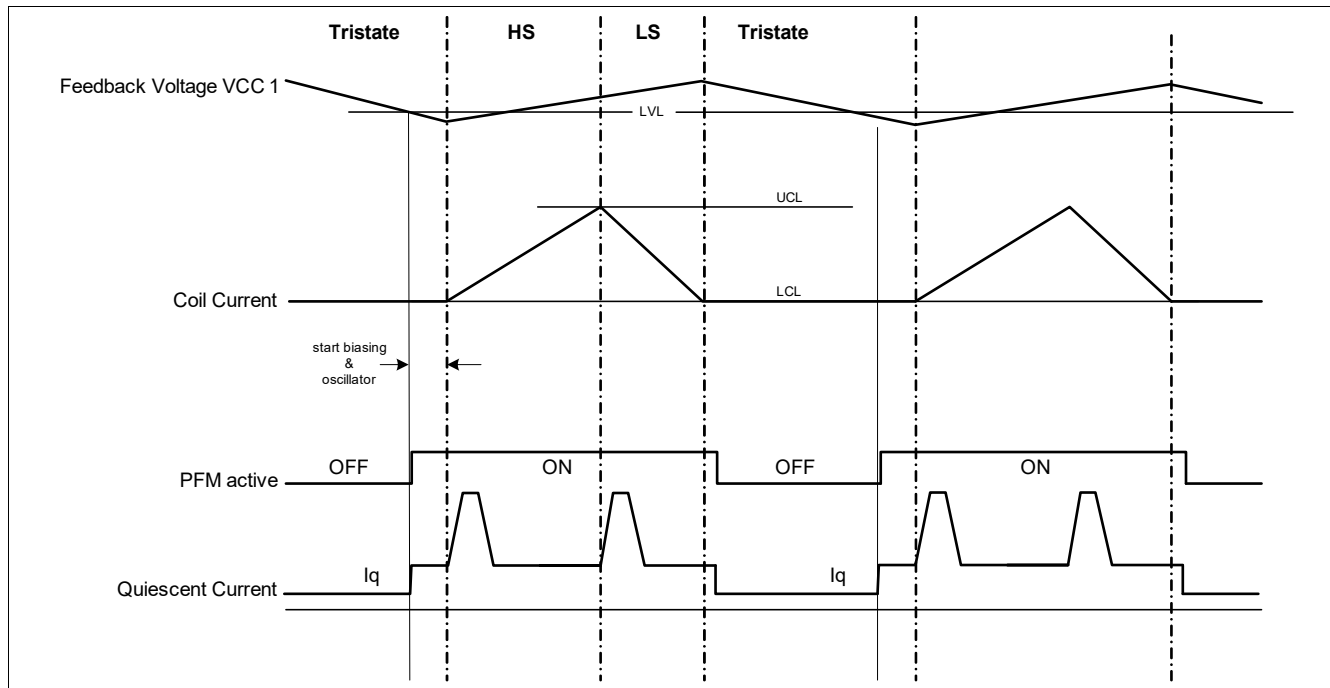

Figure 8 Typical PFM timing diagram
- **PFM Mode (Pulse Frequency Modulation):** This mode is activated automatically when the SBC Stop Mode is entered. The PFM Mode is an asynchronous mode. PFM Mode does not have a controller switching frequency. The switching frequency depends on conditions of the Buck regulator such as the following: input supply voltage, output voltage, output current and external components. A typical timing diagram is shown in Figure 8. The Buck converter in PFM Mode has a tolerance of $\pm 4\%$. The transition from PFM mode to PWM mode is described in Chapter 6.4.2.